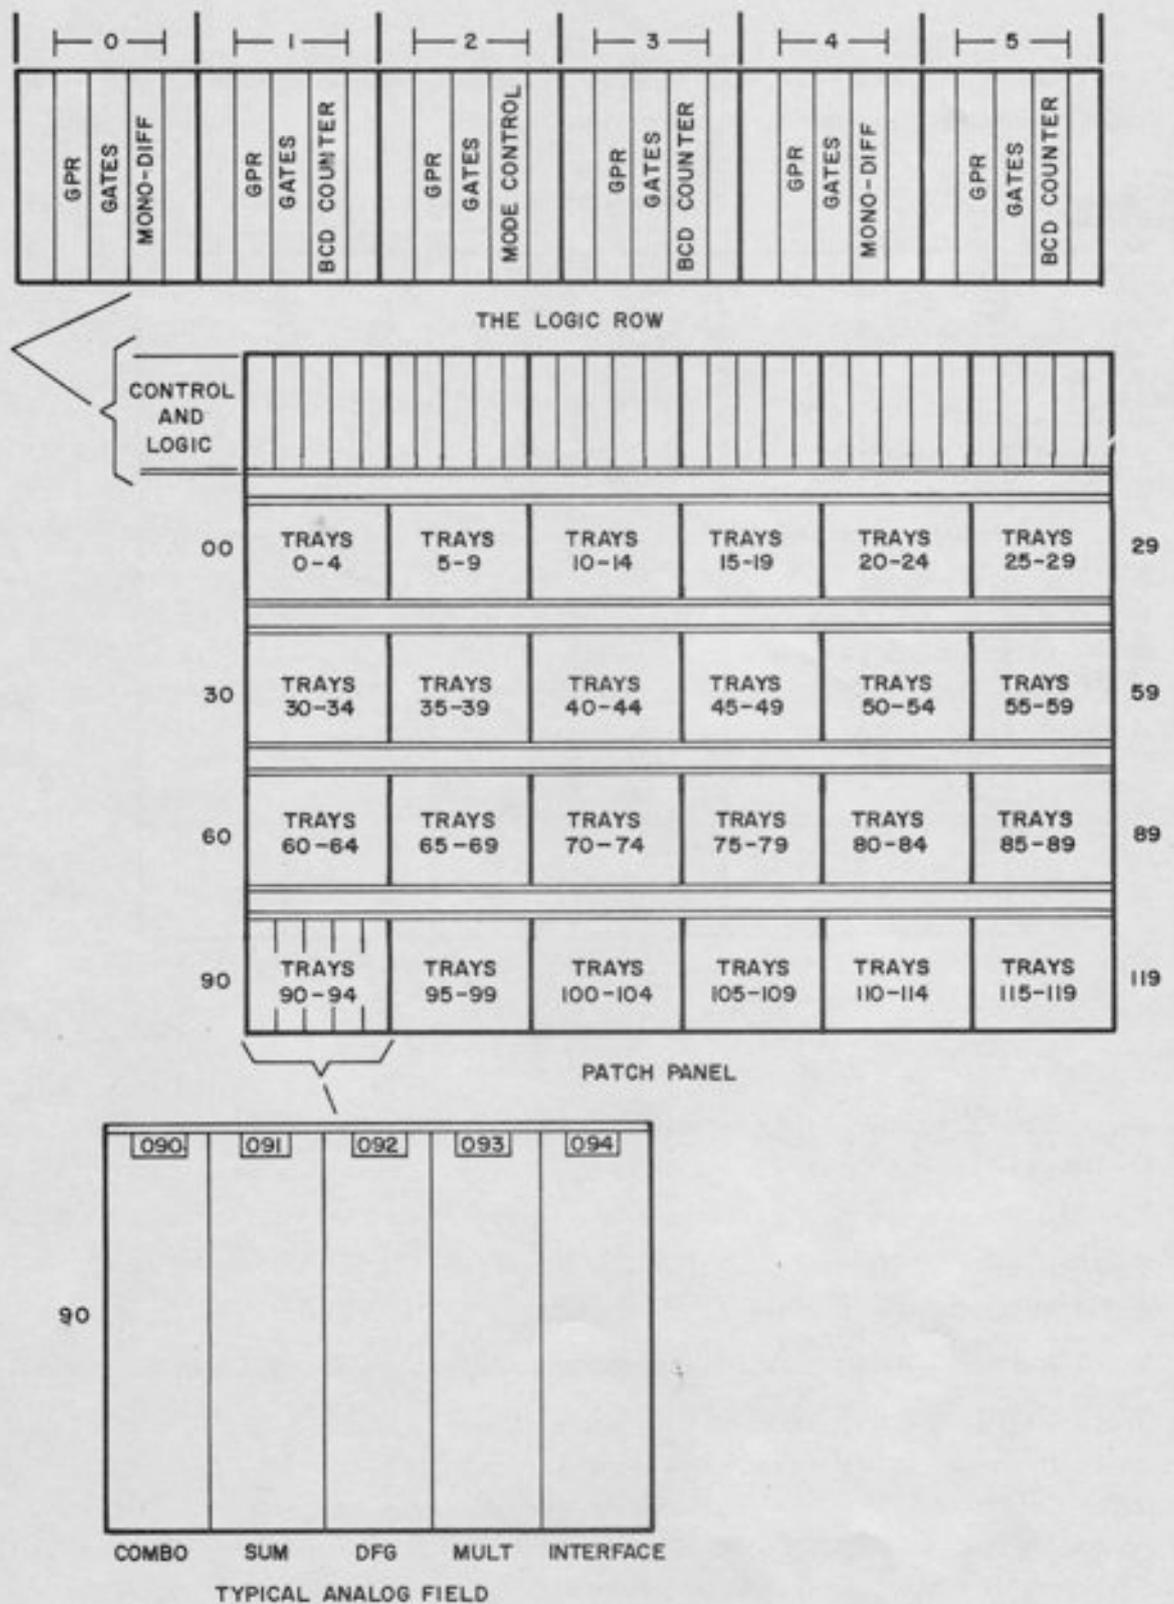

Figure 5.3. Detailed Patch Panel Layout
5.3 THE TYPICAL ANALOG FIELD (Figure 5.3)
The logic components, like the analog components, are arranged in as symmetric a manner as possible. There are 6 fields of 5 trays each, for a total of 30 trays (Figure 5.3). Four out of five trays are identical from one field to the next. The general pattern is as follows: